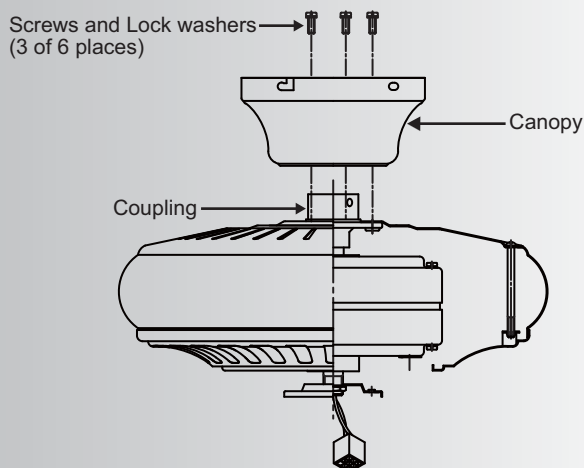

Fig. 10
Step 2. Remove three of the six screws and lock washers (every other one) from the coupler on top of the motor assembly. Place the ceiling fan canopy over the coupler and align the mounting holes with the holes in the coupler. Attach the canopy with the three screws and lock washers previously removed. (Fig. 10)